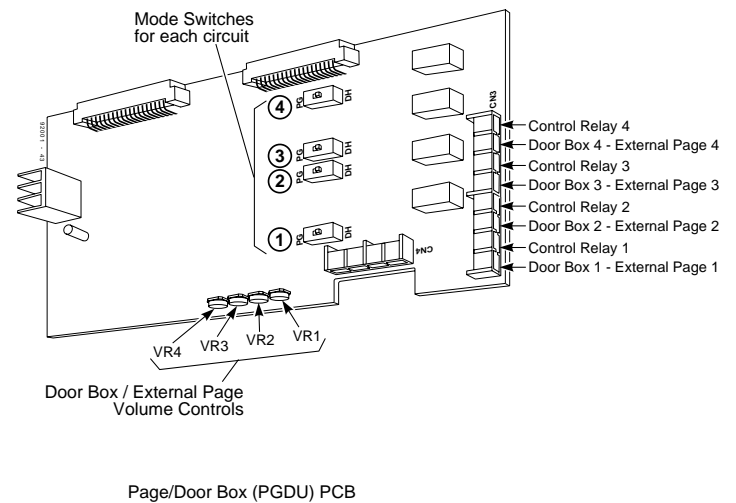

Figure 4-6 CONNECTING TO THE PGDU
4. Plug the DDK connector into the Control Relay (1-4) connector in the PGDU PCB (Figure 4-6).